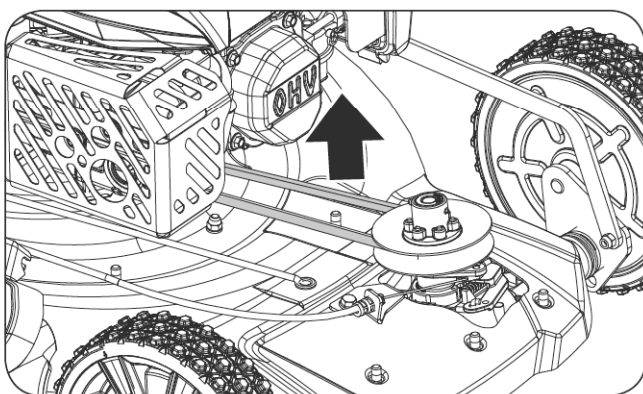

Figure 29
4. Remove the front end of the V-belt. (See **Figure 29**)